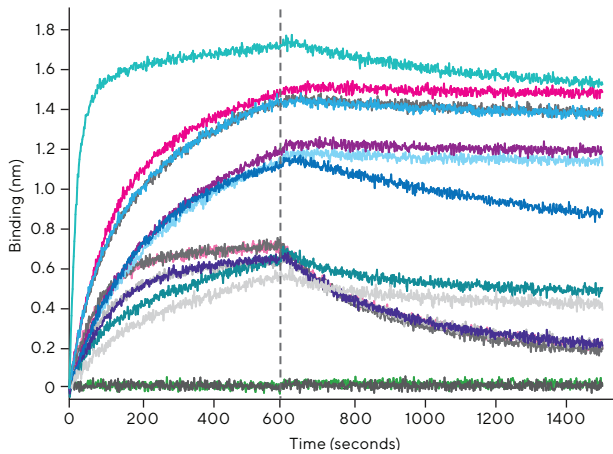

Figure 1: Kinetic screening using Streptavidin (SA) Biosensors.
Using Streptavidin (SA) Biosensors on the Octet® system, a biotinylated antigen was immobilized onto the biosensor surface offline. Thirteen hybridoma clones were screened against the antigen for binding and subsequent off-rate analysis. Binding capacity on the SA Biosensors, measured by the nm shift of the association phase, is shown in Figure 1.